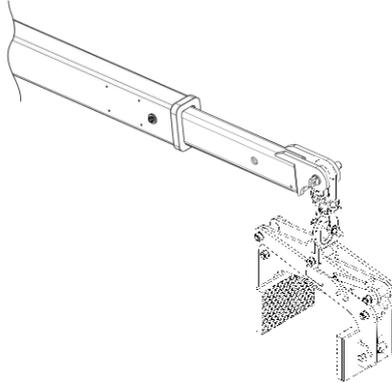

Figure 1.1
Step 1: Hook the Scissor Clamp to a forklift boom or to a crane hook (Figure 1.1)